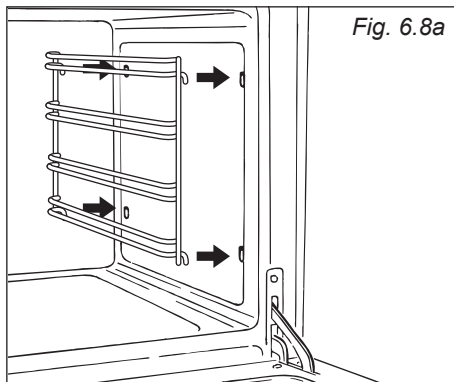

Fig. 6.8a
- Fit the side runner frames into the holes on the side walls inside the oven (fig. 6.8a).